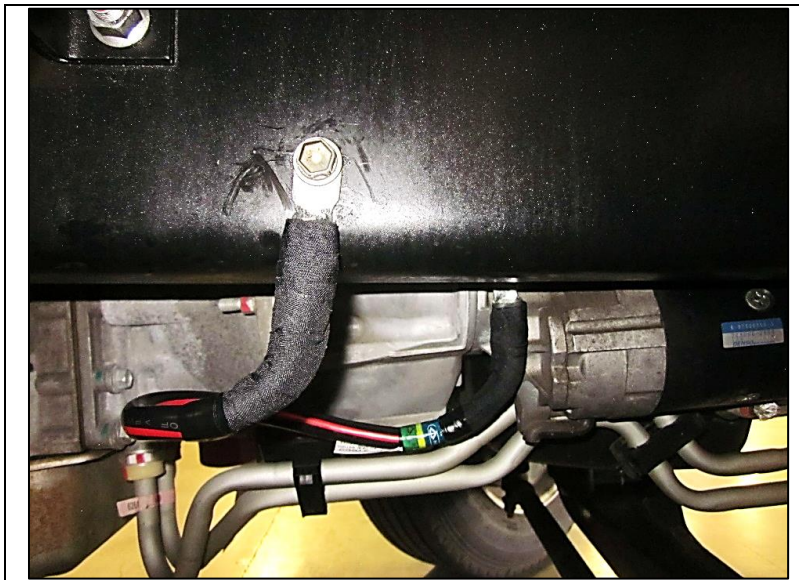

Figure 5
9. Ensure that the ground cable is installed and routed as shown in Figure 5.